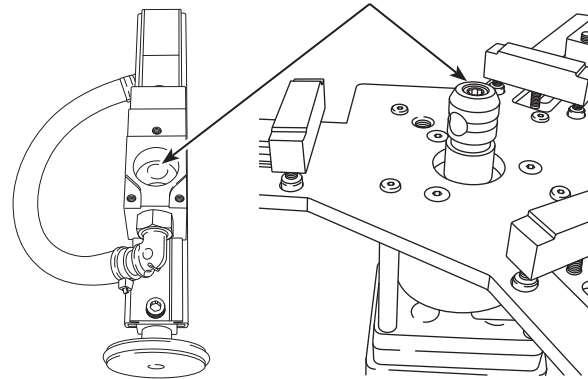

Figure 10
7. Select the longest nozzle arm that will clear the legs of the fixture but still reach the outer diameter of the DPF. Connect the nozzle arm to the spindle shaft using an “align, push and twist” movement. The spring-loaded ball should snap into the spindle detent. (Figure 10)